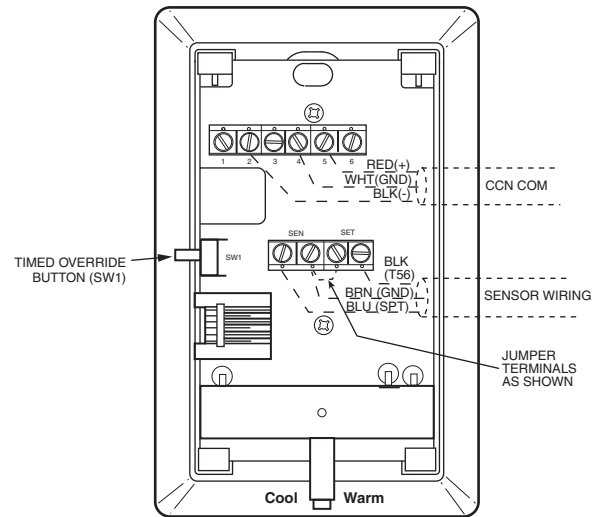

Fig. 28 — Space Temperature Sensor Typical Wiring (33ZCT56SPT)
- Space temperature sensor (33ZCT56SPT) with timed override button and set point adjustment (see Fig. 28)